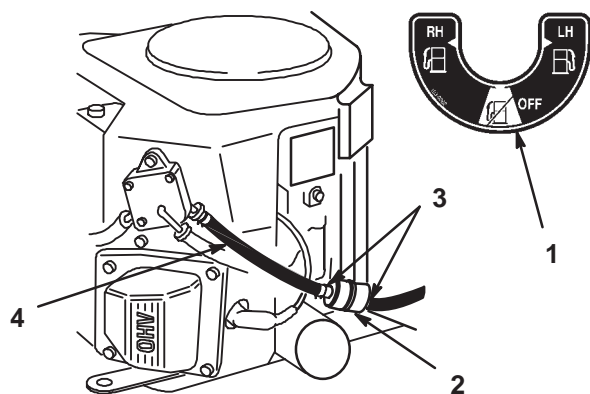

Figure 31
5. Install a new filter and move the hose clamps close to the filter (Fig. 31).
2. Close fuel shut-off valve (Fig. 31).
3. Loosen the hose clamp at the fuel filter and slide it up the fuel line away from the fuel filter (Fig. 31).
4. Pull the fuel line off fuel filter (Fig. 31).
5. Open fuel shut-off valve for left and right tanks. Allow gasoline to drain into a gas can or drain pan (Fig. 31).
6. Install the fuel line onto the fuel filter. Slide the hose clamp close to the fuel filter to secure the fuel line (Fig. 31).